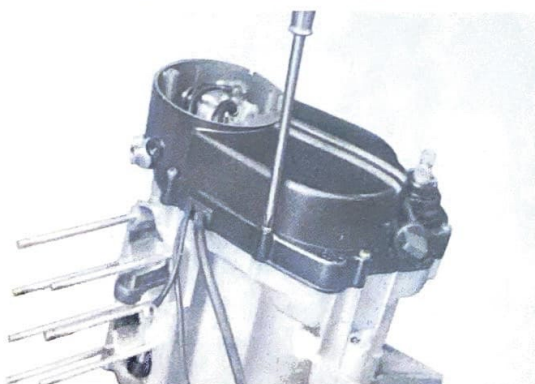

Fig. 4-7-2
- b. Remove the pan-head screws from the crankcase cover (R); and take off the cover. (Fig. 4-7-2 and 3)